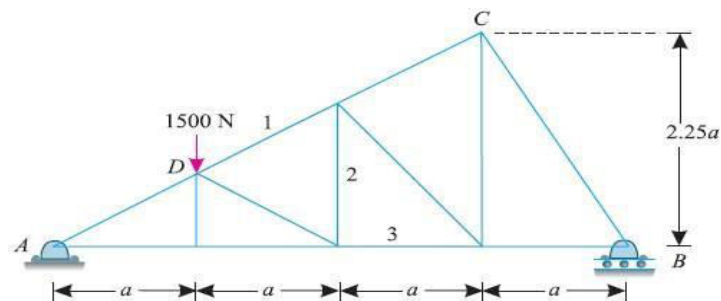

Fig.29
3. A plane is loaded & supported as shown in fig.29. Determine the nature and magnitude of the forces in the members 1, 2 and 3. [L5] [12M]